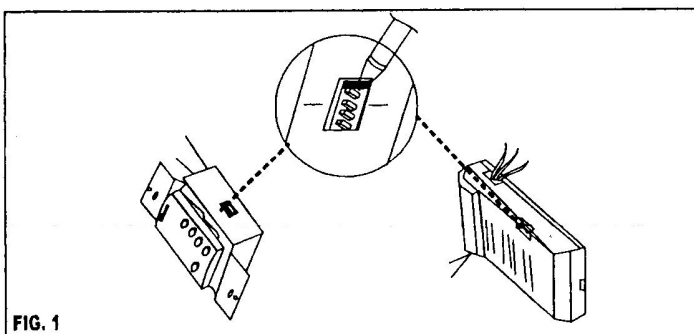

FIG. 1
**NOTE:** The frequencies on your Receiver and Transmitter have been preset at the factory. Before installing the Receiver, make sure the dip switches on the Receiver are set to the same position on the Transmitter. (Fig. 1) The dip switches on the Transmitter are located on one side of the control.